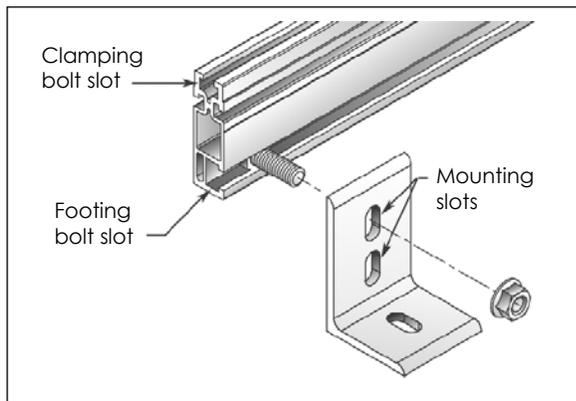

Figure 12. Foot-to-rail splice attachment
**Mounting Rails on Footings.** Rails may be attached to either of two mounting holes in the footings (Fig. 12). Mount in the lower hole for a low profile, more aesthetically pleasing installation. Mount in the upper hole for a higher profile, which will maximize airflow under the modules. This will cool them more and may enhance performance in hotter climates.